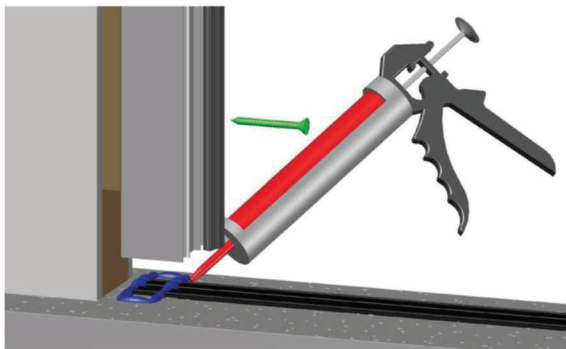

FIGURE 6
2. Match the centerline of the side frames with the centerline of the bottom track as the side frame will sit between the top and bottom track. (Fig.6)